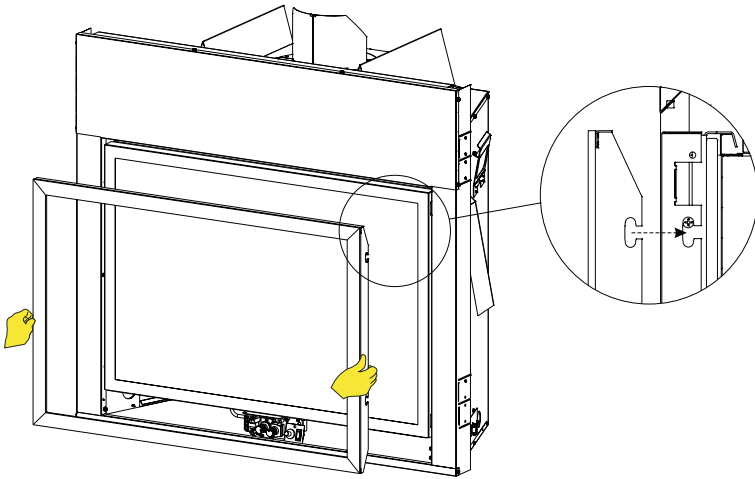

Figure 3
- Slide the decorative front onto the glass frame over the barrier screen so the notches hang on the four screws. **See Figure 3.**